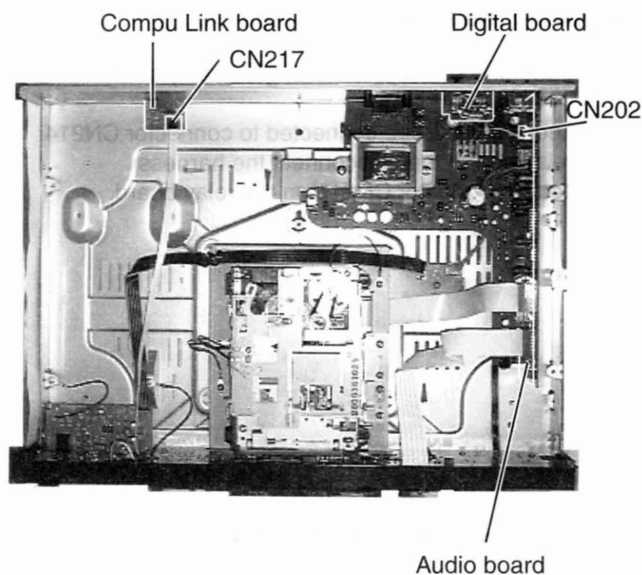

Fig. 12
■ **Removing the Digital Board** (see Fig. 12 and 13)
(see Fig. 12 and 13)